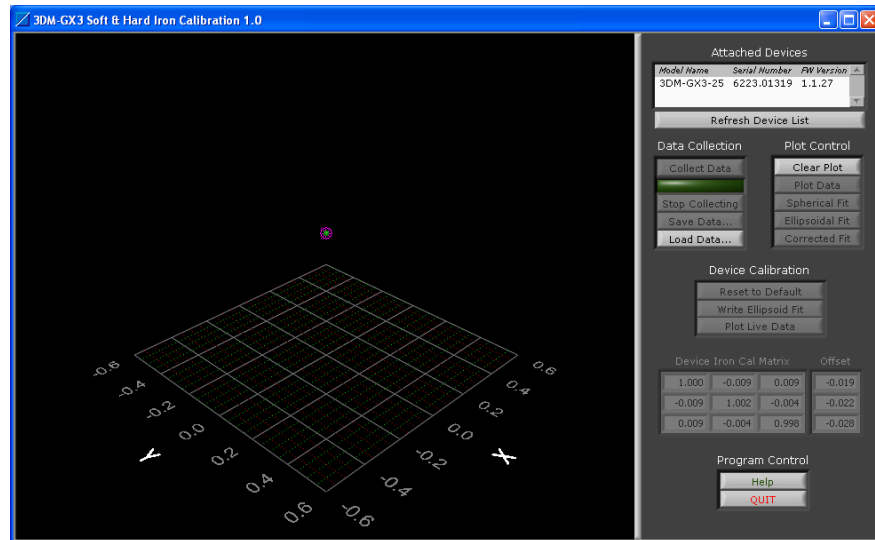

Figure 1
- 3) The MIP Soft & Hard Iron Calibration Main window will appear. If you have a 3DM-GX3[®] connected, it will appear in the Attached Devices list as shown in *Figure 1*. If you add a device after the application has been launched, you must click the Refresh Device List button for the new device to appear.